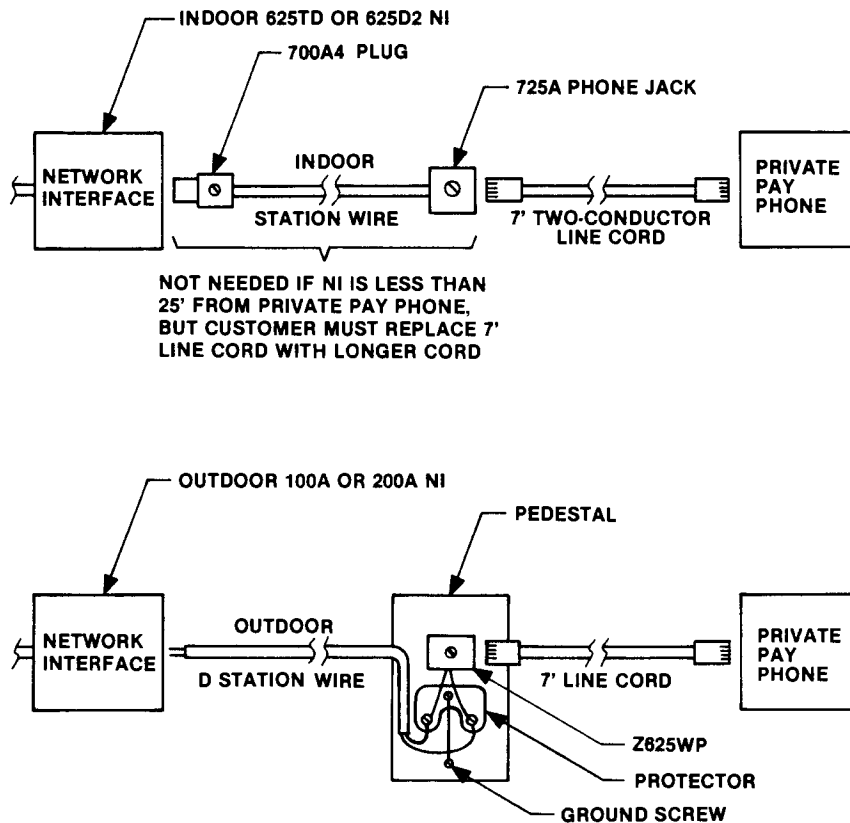

Figure 6 Additional Station Protector Installation
block. Use this connector block for the phone's telephone connection. Refer to Figure 6.
- Lay the power cable, ground wire, and 2-conductor telephone line cord. If a hole was drilled through the wall, put them through hole. If a groove was placed on the wall, channel them along groove. (You may need to tape the cable, wire, and line cord down in groove.) In either case, make sure they can reach their respective connections. Refer to Figure 6.